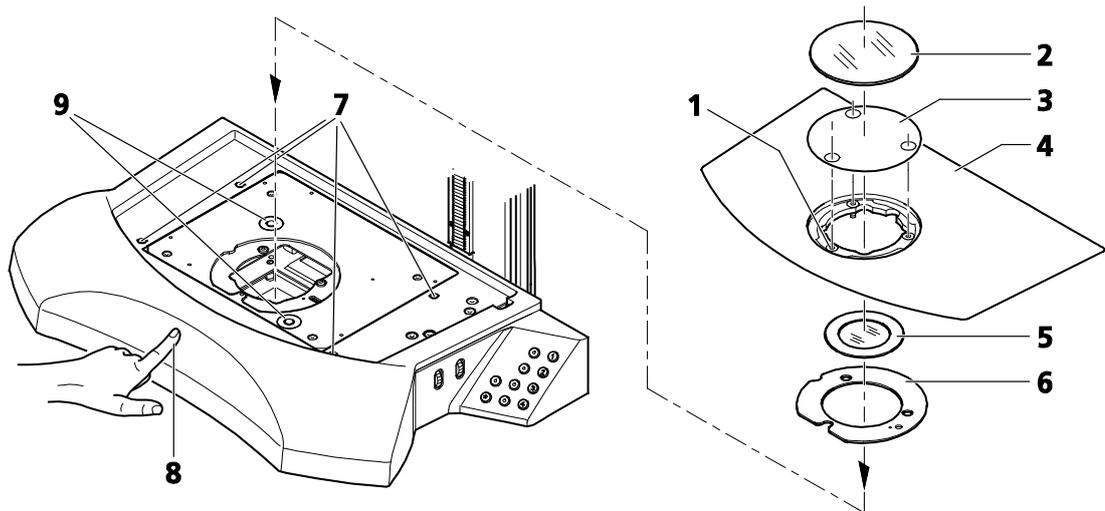

Fig. 3 Mounting the transillumination top 450 mot.
- For parallel alignment push the transillumination top slightly backwards with the finger (Fig. 3/8) and screw it hand-tight to the base plate using the four countersunk captive hexagon socket screws (SW 3) (Fig. 3/7).
The transillumination top may not be connected to the mains supply until the shipping screws (Fig. 3/9) have been removed; damage may otherwise be caused by the initialization runs thus triggered.
- The two shipping screws (Fig. 3/9) must be removed and kept in a safe place.
- Insert the magnet-coded receptacle $d = 84$ mm (Fig. 3/6) with polarizer (Fig. 3/5) only for polarization applications (pay attention to markings for north-south orientation). Attach the respective analyzer to the objective.
If the magnet-coded receptacle $d = 84$ mm (Fig. 3/6) is mounted or removed at a later time, the microscope system must be switched on again/restarted for the new status to be recognized.
- Place the insert plate (Fig. 3/4) on the transillumination top.
- Insert assembly aid $d = 120$ mm (Fig. 3/3) and align with the threaded holes. This will prevent the screws and small parts from falling into the transillumination top.
- Screw the insert plate onto the transillumination top using the three hexagon socket screws (Fig. 3/1).
- Remove assembly aid $d = 120$ mm. Insert the glass plate 120 mm (Fig. 3/2).